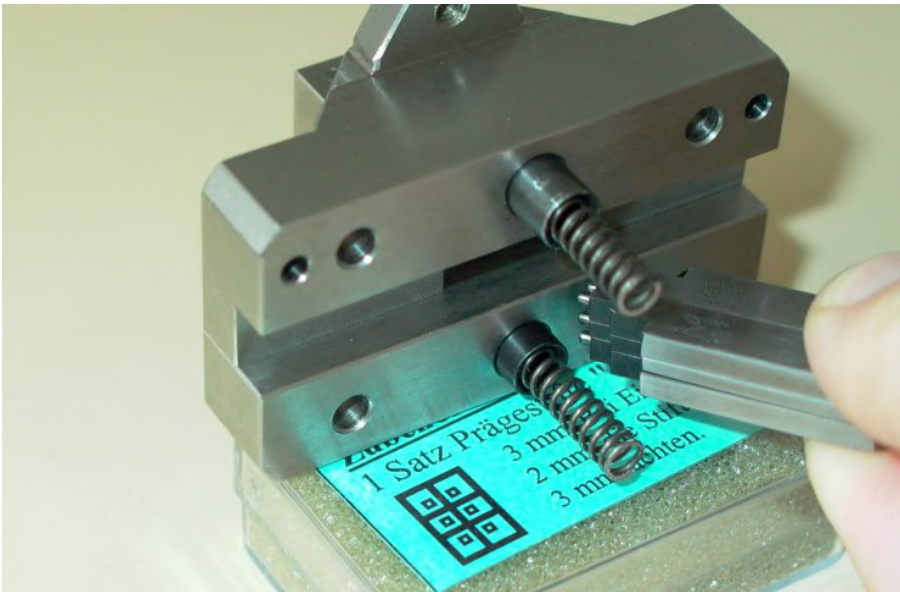

Figure 51: Mounting Embossing Pins
- Take all six embossing pins out of the head (Figure 51).
- Assemble the six pins as in (Figure 51). and insert the block into the housing.